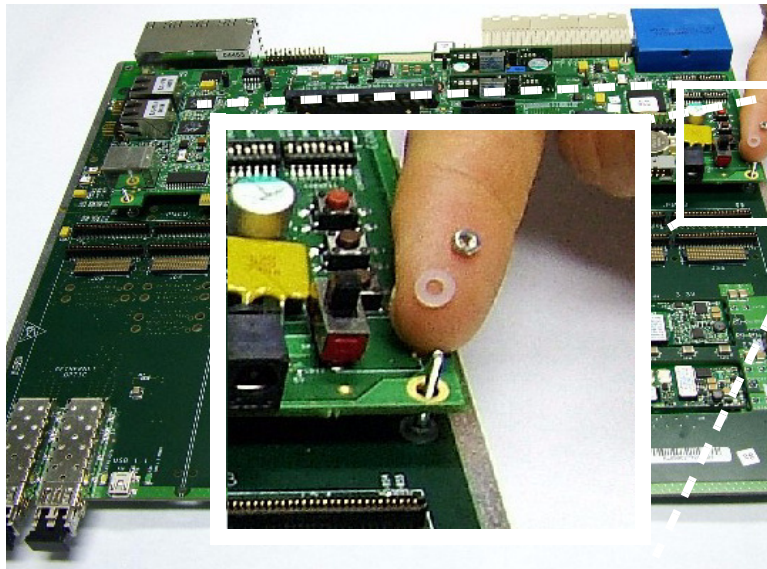

Figure 2-7. Fasten the four tightening screws
5. Manually fasten the four screws as shown in Figure 2-7.